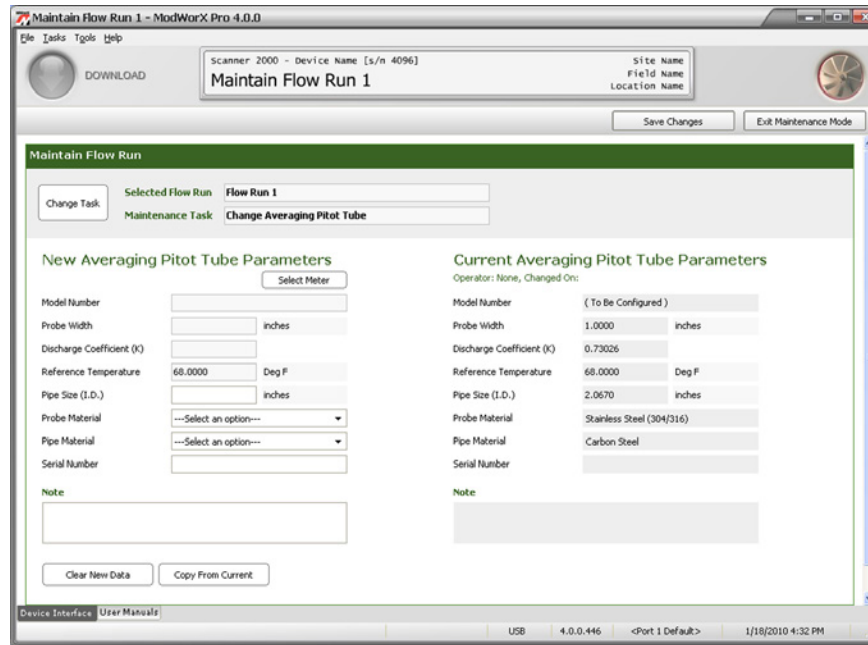

Figure 11.5
- b. Click **OK** to save your selections and return to the Maintain Flow Run screen (Figure 11.5, page 164).